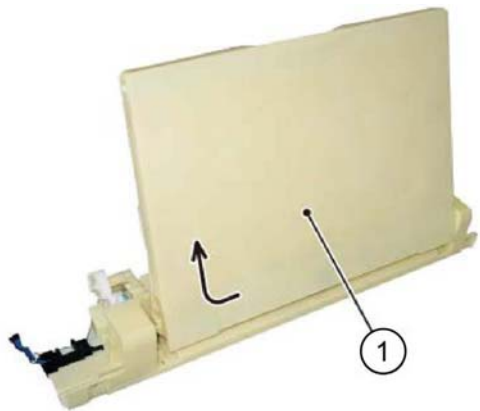

Figure 2 Tray assembly removal
3. Remove the bypass tray assembly in the direction of the arrow, Figure 2.